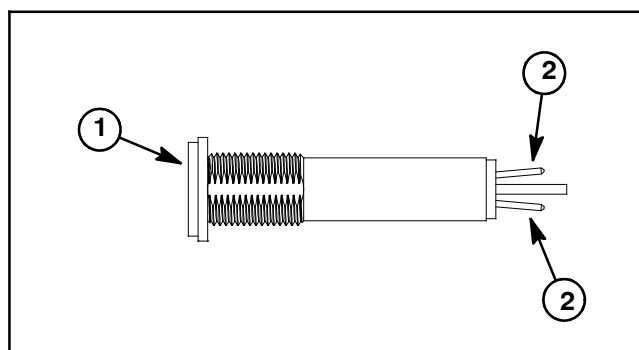

Figure 22
4. The two (2) terminals for the light are shown in Figure 22. Use appropriate jumper wires to connect a 48 VDC source to the status indicator light terminals.